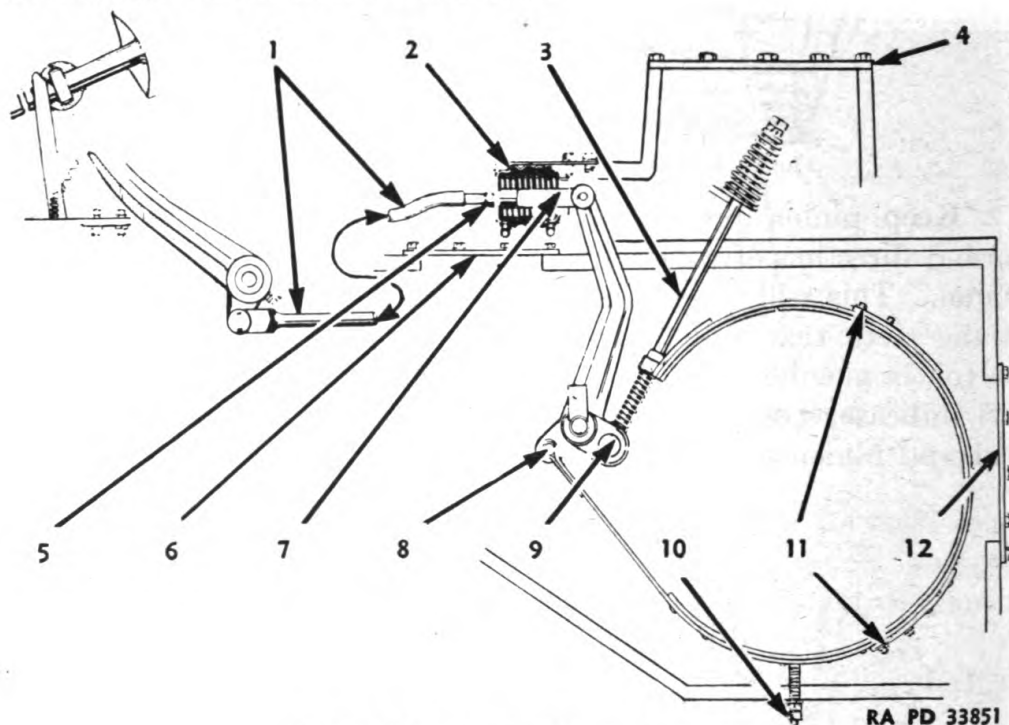

FIGURE 134.—Brake system—schematic.
125. Removal.—The three sections of the brake bands can be taken apart and removed through the hand holes (12) (fig. 134) in the rear face of the transmission case.